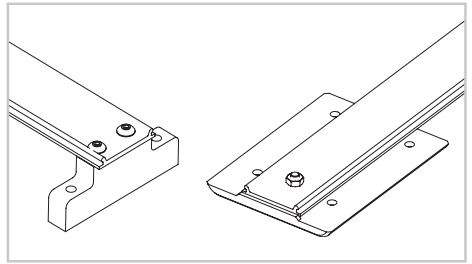

Fig. 5
- 4) Remove the screws and nuts that fix the belt to the block/plate (Fig.5).